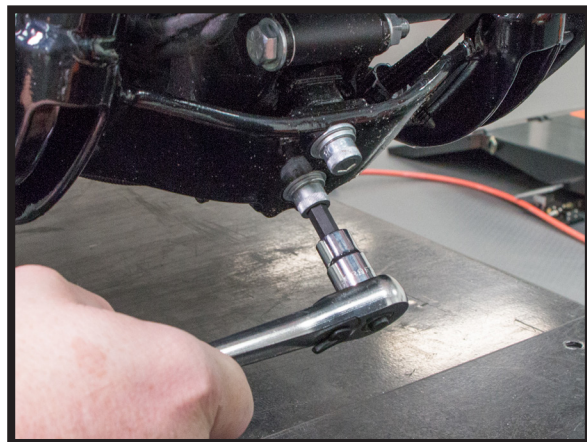

FIGURE 5
3. SUPPORT THE MOTORCYCLE UNDER THE MOTOR UNTIL THE REAR TIRE ALMOST LEAVES THE GROUND. REMOVE THE LOWER FRONT MOTOR MOUNT BOLT AND SET IT ASIDE. LOOSEN THE UPPER FRONT MOUNT BOLT JUST ENOUGH SO THAT THE PUMP BRACKET CAN EASILY SLIDE BETWEEN IT AND THE FRAME; DO NOT REMOVE THE BOLT COMPLETELY. (FIGURES 5, 6)